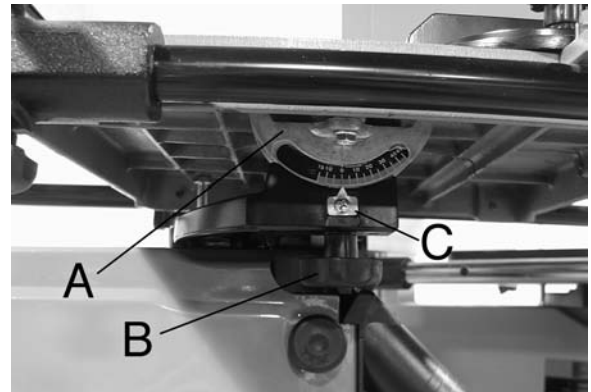

FIGURE 11
3. When the table is 90° to the blade, the stop (bolt) should come in contact with the bottom of the table. If an adjustment is necessary, loosen nut (B) and turn stop bolt until it contacts the table.
4. The pointer (C-Fig.11) may need adjusting after the table is set at 90°, unscrew pan hd. screw and reposition the pointer to the zero mark and tighten pan hd. screw.
1. The table on your bandsaw can be tilted 45° to the right and 15° to the left. To tilt the table, loosen the two lock knobs (B- Fig.11), tilt the table to the desired angle and retighten the two lock knobs.